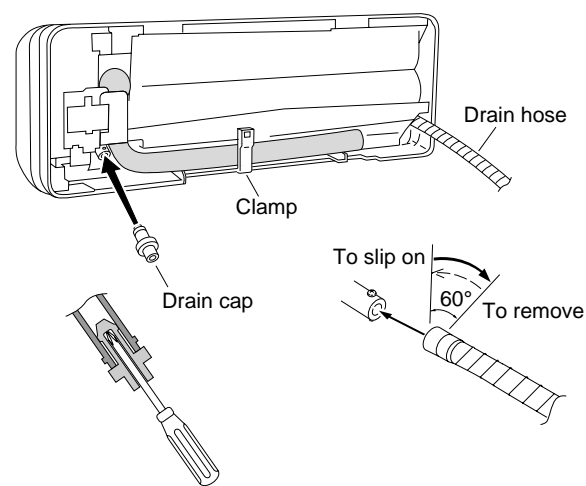

Fig. 27c
- (d) Reattach the drain hose to the left side and the drain cap to the right side. (Fig. 27c)